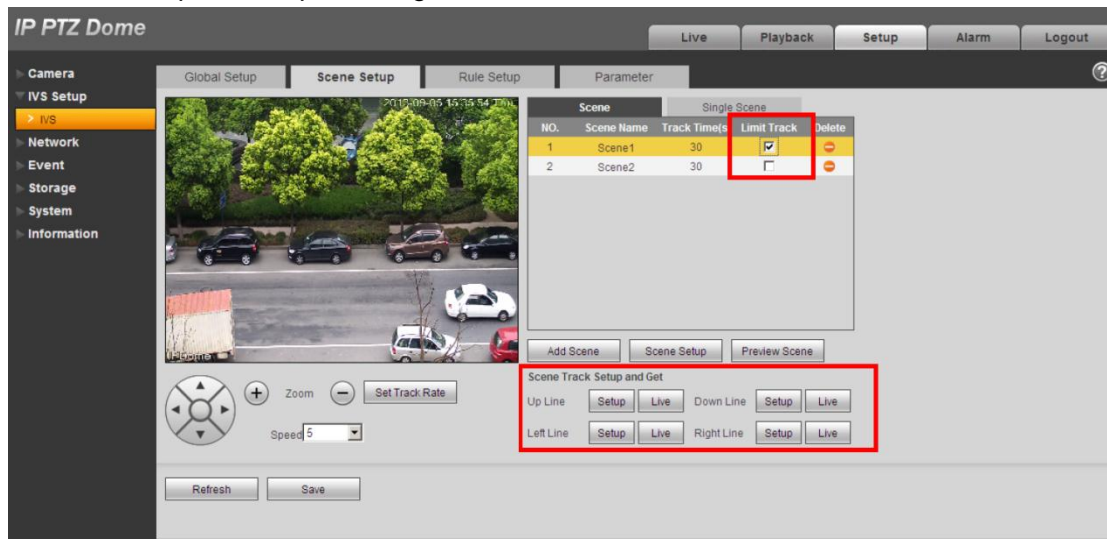

Figure 22-3
4) Set limited scene (Optional): Please check the corresponding box to enable the limited track function. Please select the track line at the right pane of the interface. Please use the PTZ direction and zoom button to set the up/down/left/right line. Click the save button to complete setup. See Figure 22-3.